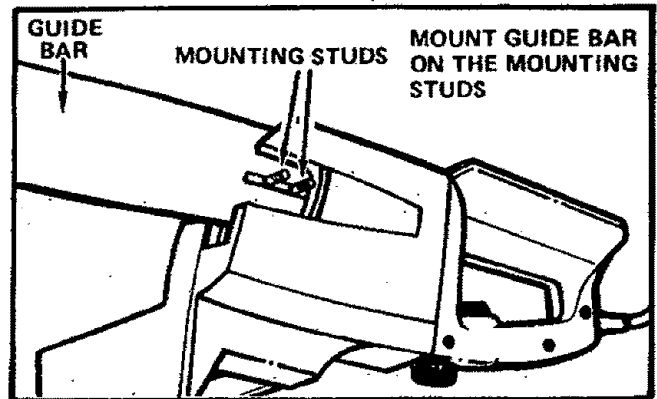

Figure 9
4. Place the Guide Bar on the saw by fitting the long slot in the Guide Bar over the two mounting studs. Figure 9.